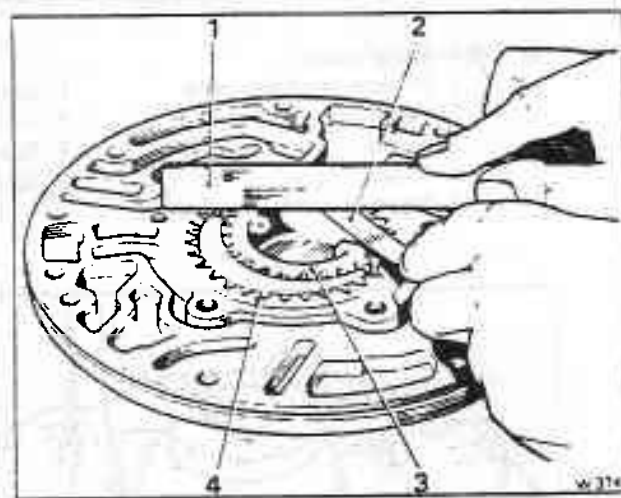

Fig. T16-5 Checking the gear end clearance
2. Fit the gears into the pump body, then check the end clearance as shown in figure T16-5. The clearance should be between 0,02 mm and 0,09 mm (0.0008 in and 0.0035 in).